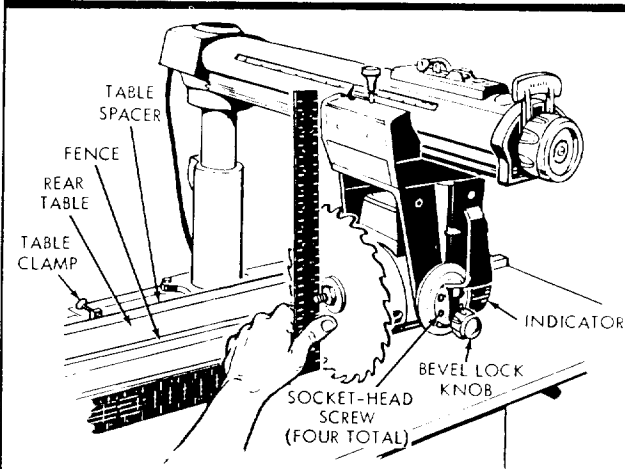

Figure 21
1. Install the fence, rear table, table spacer and the two table clamps. Tighten the clamps firmly. (See figure 21.)
2. Place the edge of a framing square on the table top and against the saw blade as shown in figure 21.
- a. Using a 1/4-inch hex "L" wrench, loosen just slightly the four socket-head screws (figure 21.)
NOTE: It will be necessary to loosen the bevel lock knob (figure 21) several turns in order to provide room for inserting the hex "L" wrench into heads of socket-head screws.
- b. Tilt the motor until the saw blade is square with the table top as shown in figure 21. Then, while holding the square firmly against the saw blade and table top, apply pressure against lower part of saw blade with the thumb until approximately 1/32-inch clearance exists between the square and lower edge of saw blade. This is to compensate for the possible slight shifting of the motor while the socket-head screws are being tightened.
- c. Tighten the socket-head screws (figure 21) and bevel lock knob.
- e. The indicator (figure 21) should read 0° on the bevel index scale. If not, loosen the indicator attaching screw, adjust indicator to zero and tighten screw securely.